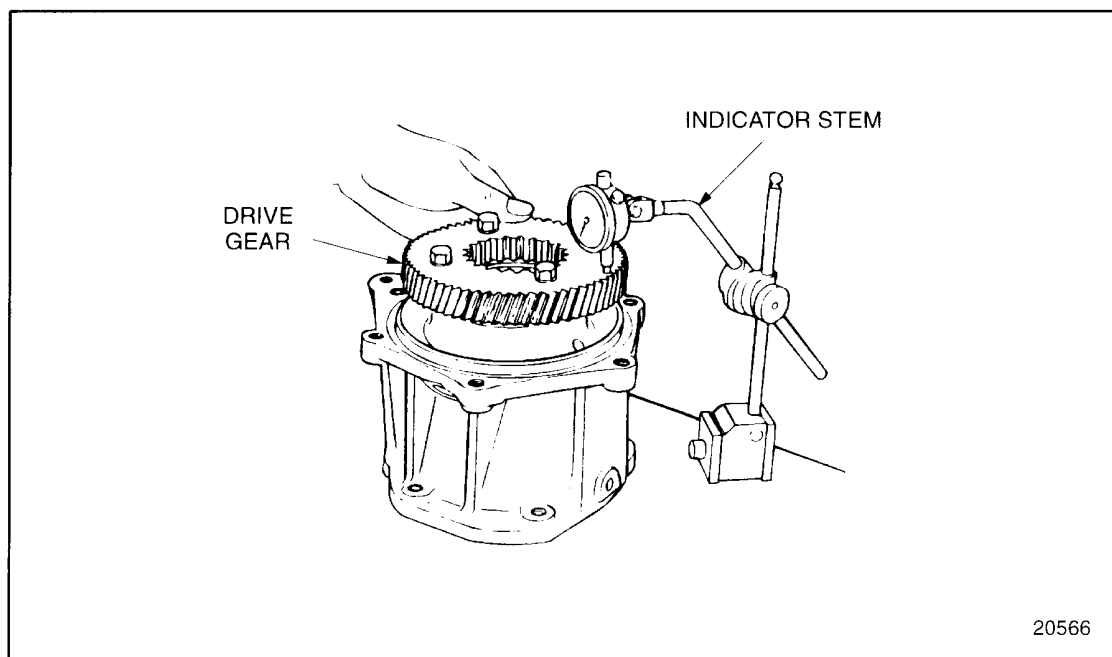

Figure 10-24 Measuring Air Compressor Drive Gear TIR
21. Assemble a dial indicator and magnetic base so that the indicator stem rests on the face of the drive gear just inboard of the drive gear teeth. See Figure 10-24.